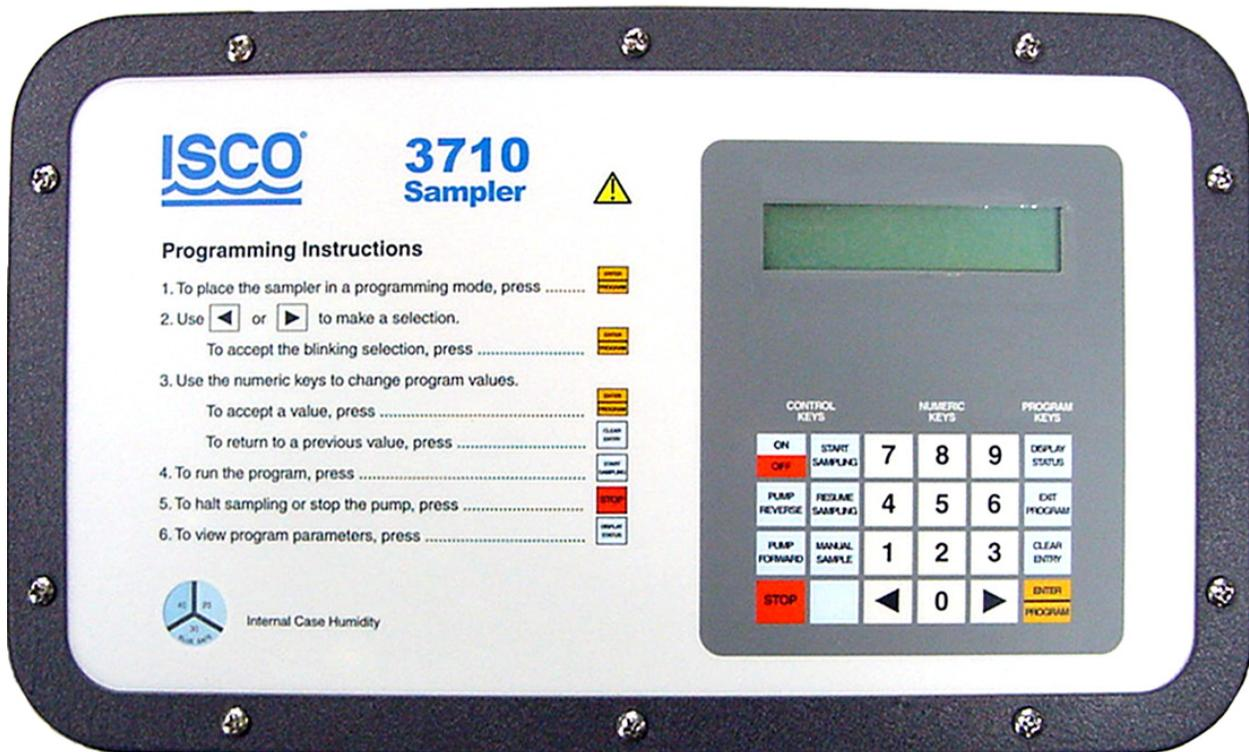

Figure 3-2 3710 Sampler Control Panel
**3.6.1 Following Display Cues** Configuring and programming the sampler is as simple as responding to displays on the LCD with the keypad. The sampler will prompt you through many of the entries by presenting a question or a choice on the display. You must respond with the keypad. The LCD and the keypad are located on the 3710 Sampler control panel, shown in Figure 3-2.